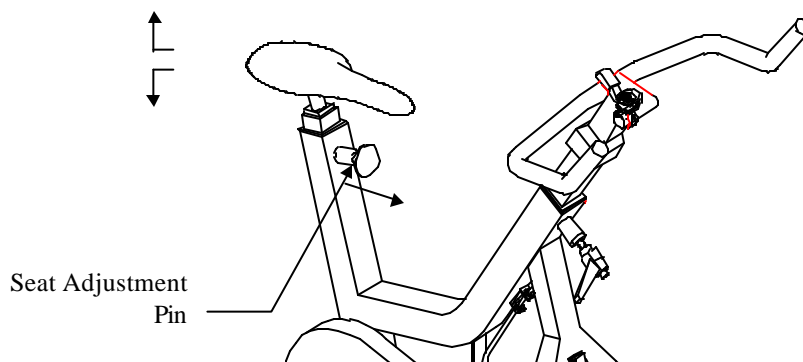

Figure 7
2. Grab hold of seat (Figure 7).